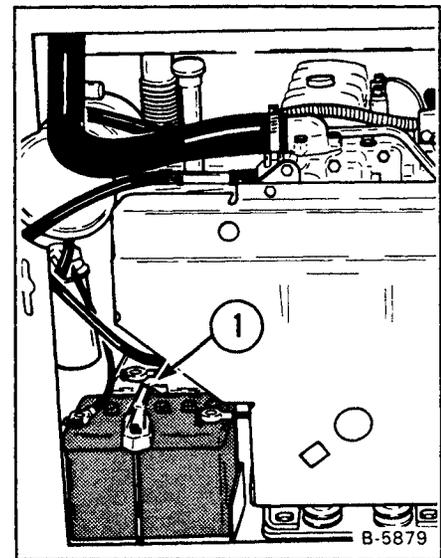

Fig. 1-27 Location of Batteries
- (2) Remove the battery holddown clamp (Fig. 1-27, Item 1) and remove the battery.